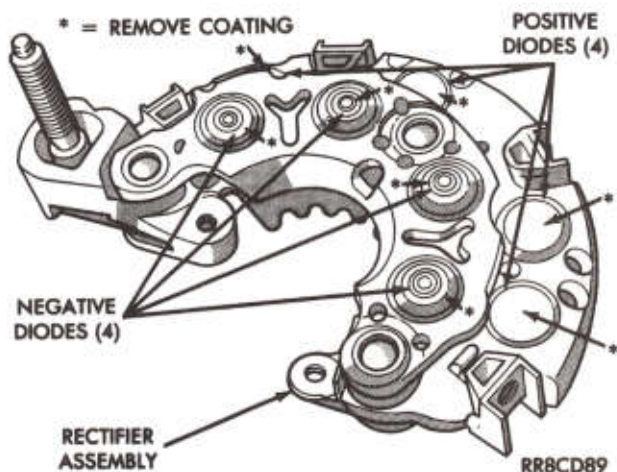

Fig. 8—Remove Coating from Diode Locations
(2) Using a suitable scraping device, remove a small area of coating from each diode location to assure good electrical contact during testing (Fig. 8).